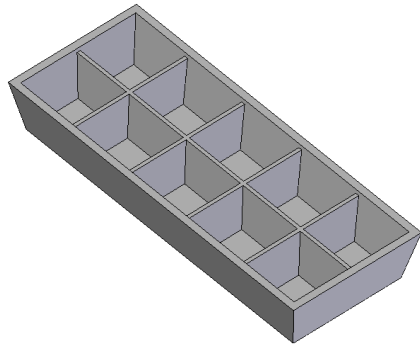

Figure 8-69 Model after creating the web network
8. Choose the **Preview** button and then choose the **Finish** button from the ribbon bar to complete the web network, see Figure 8-69.